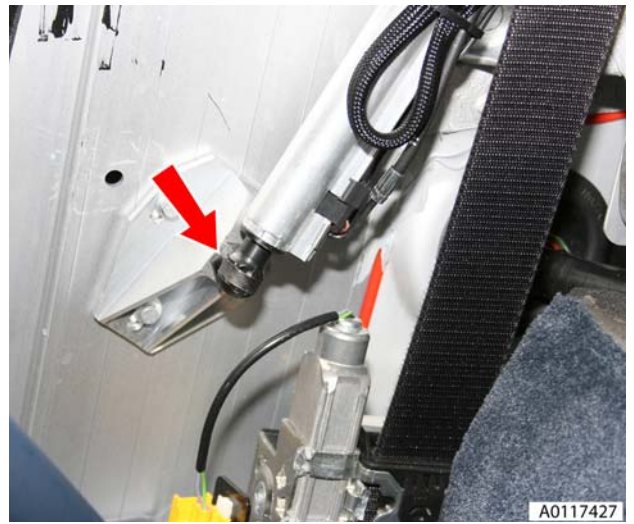

Figure 5
11. Release both main cylinders lower retaining clips and disconnect cylinders from B-posts (see Figure 5).